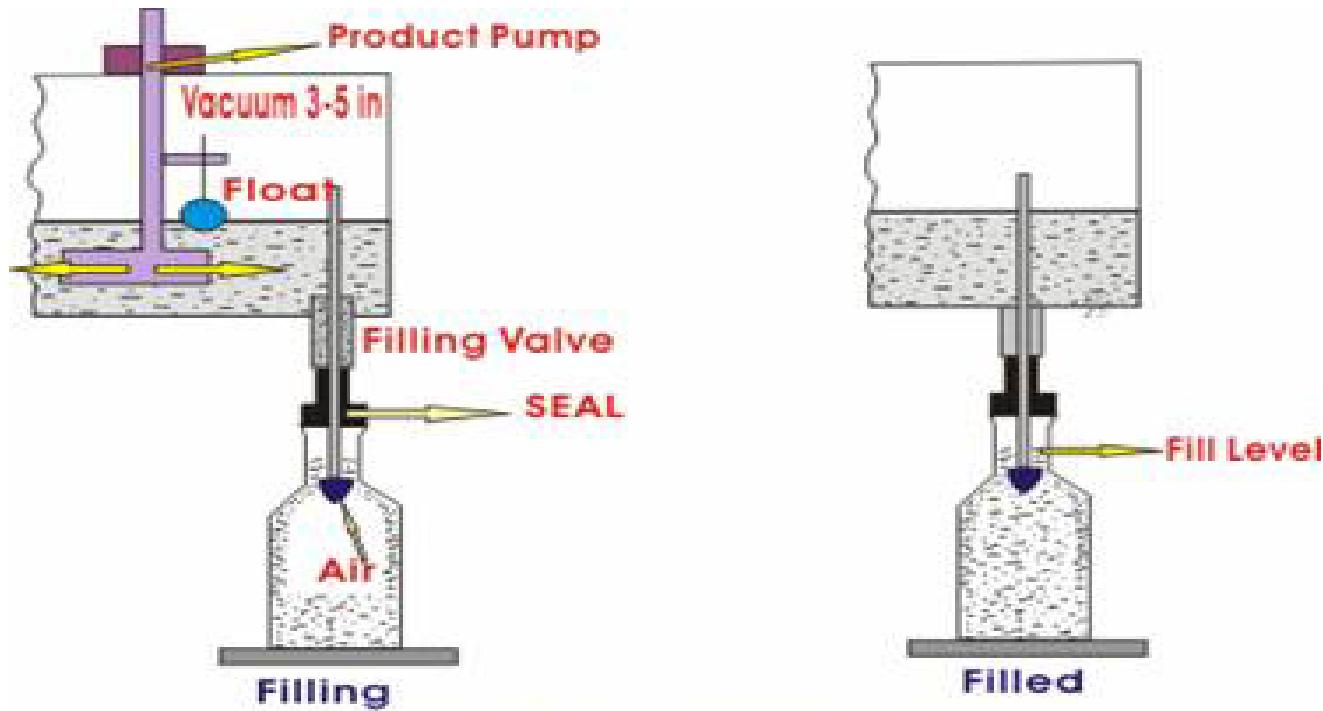

Figure 20.16 Gravity vacuum filling
- Combining the features of both the gravity and the vacuum systems (Figure 20.16).